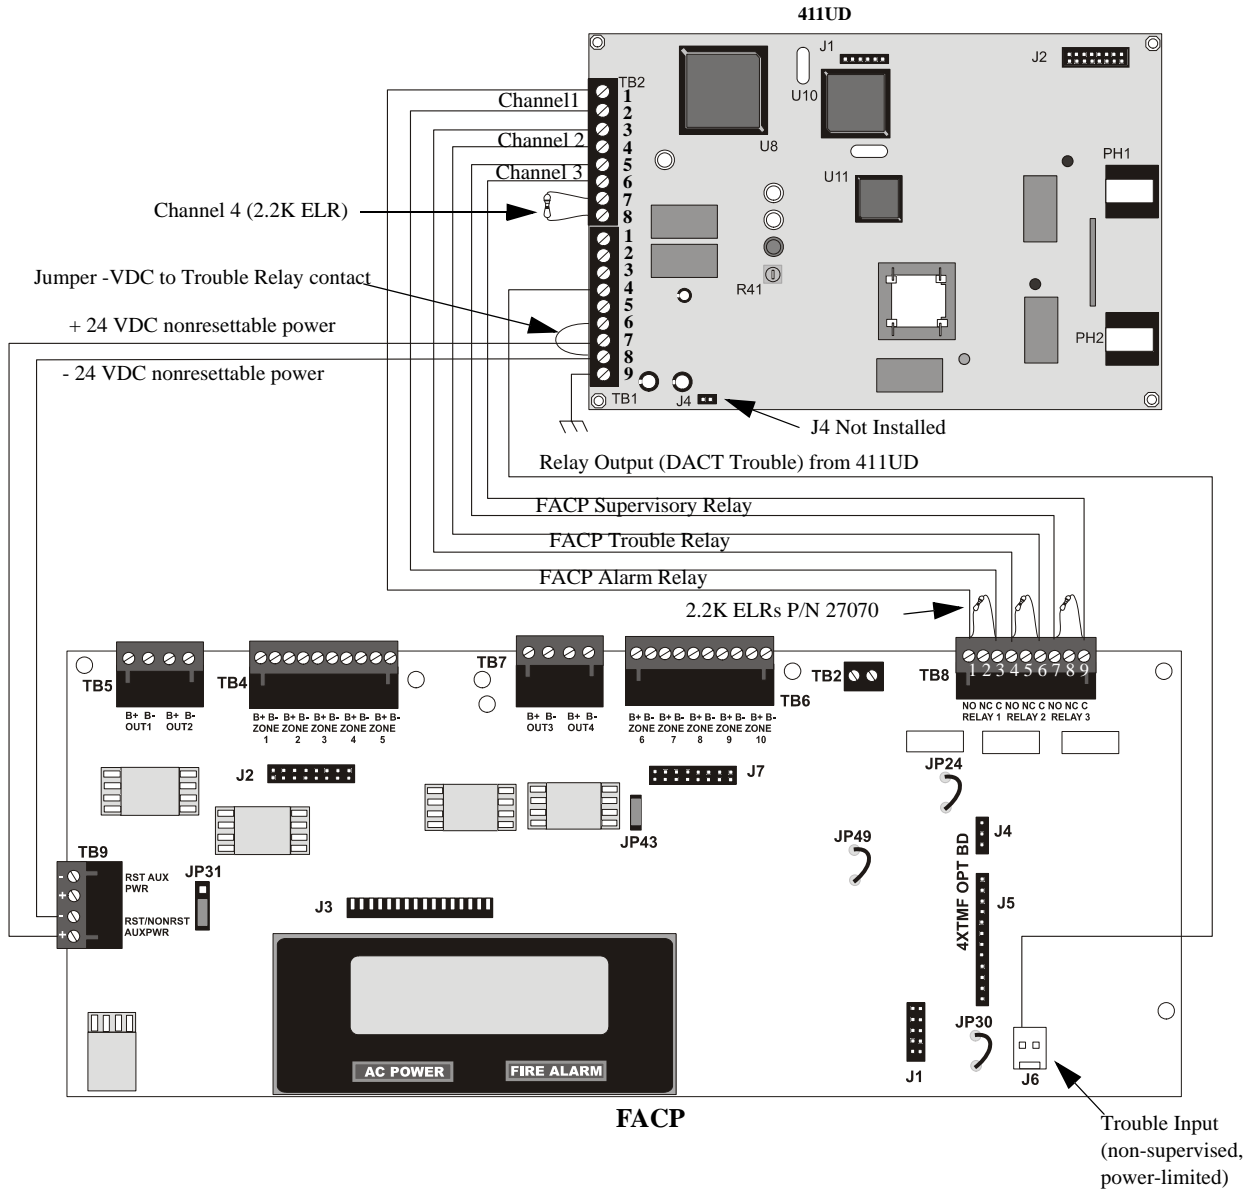

Figure B.1 MS-5UD/MS-10UD FACP Connection to 411UD
411UD may be installed as illustrated in Figure B.1, "MS-5UD/MS-10UD FACP Connection to 411UD," on page 133.
5. Any zone of the 411UD can be wired to function as alarm, trouble or supervisory. In Figure B.1 on page 133, Channel 1/Zone 1 is wired to the control panel's alarm relay, Channel 2/Zone 2 is wired to the control panel's trouble relay and Channel 3/Zone 3 is wired to the control panel's supervisory relay.